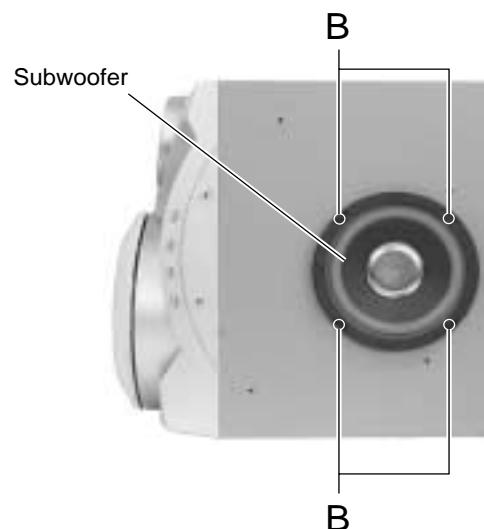
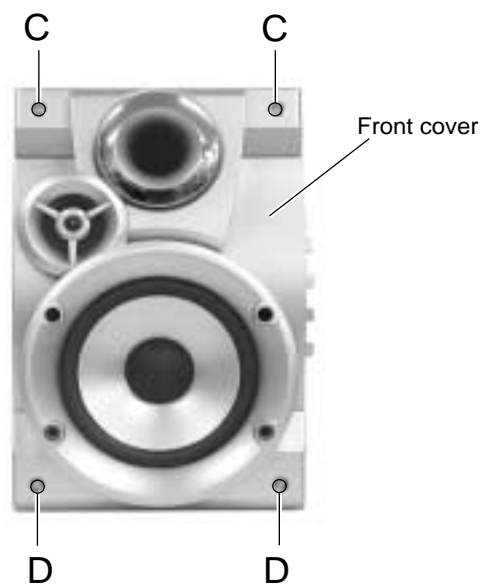

Fig.2
Fig.3
2. When the flywheel R is rotated in counterclockwise direction, the playback / recording & eraser head will be turned in counterclockwise direction from the position in Fig.2 to that in Fig.3.
### ● Reassembling the playback, recording and eraser heads (See Fig.3)
1. Reassemble the playback head from the front of the head mount to the position as shown in Fig.3.
4. Attach the flexible P.C.board to the chassis base as shown in Fig.3.
### ■ Removing the subwoofer (See Fig.2)
### ■ Removing the front cover (See Fig.3 and 4)